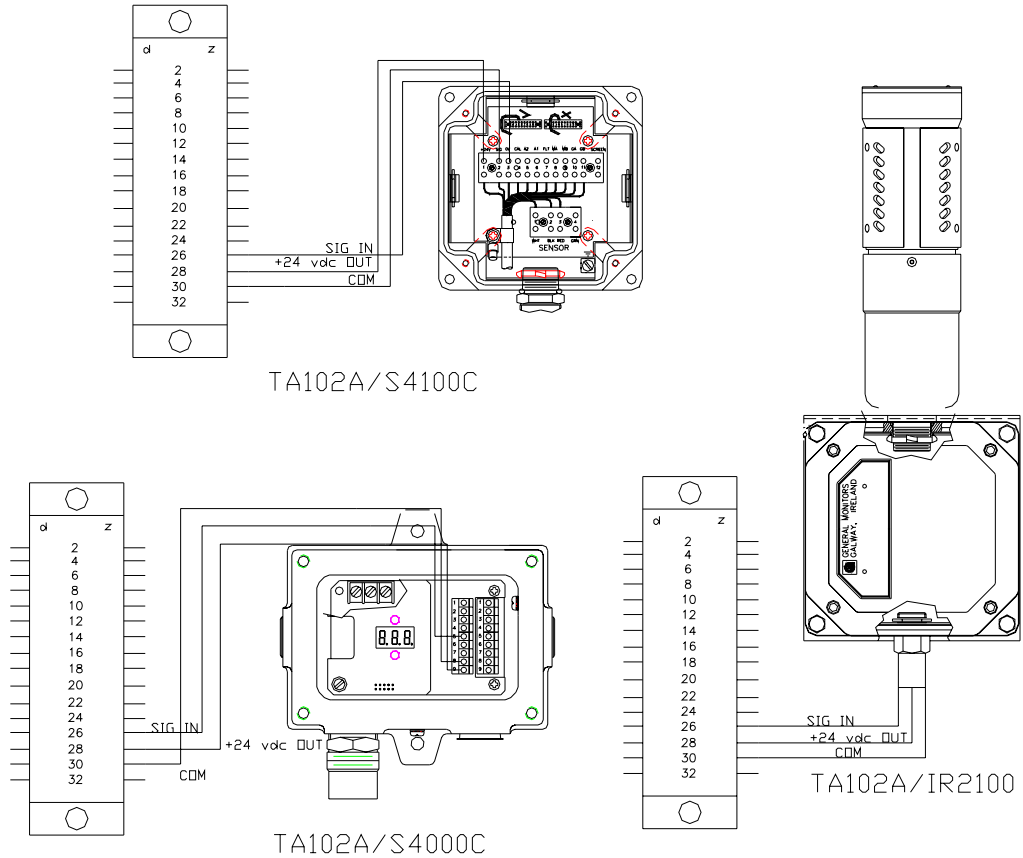

Figure 31 – Field Device/Controller Connections
Figure 31 illustrates the Field Device/Controller connections.
- The Smart Sensor or Point IR Detector input consists of the three lead connections used with General Monitors’ Field Devices (Common, Signal, +24VDC). Refer to figure 31.